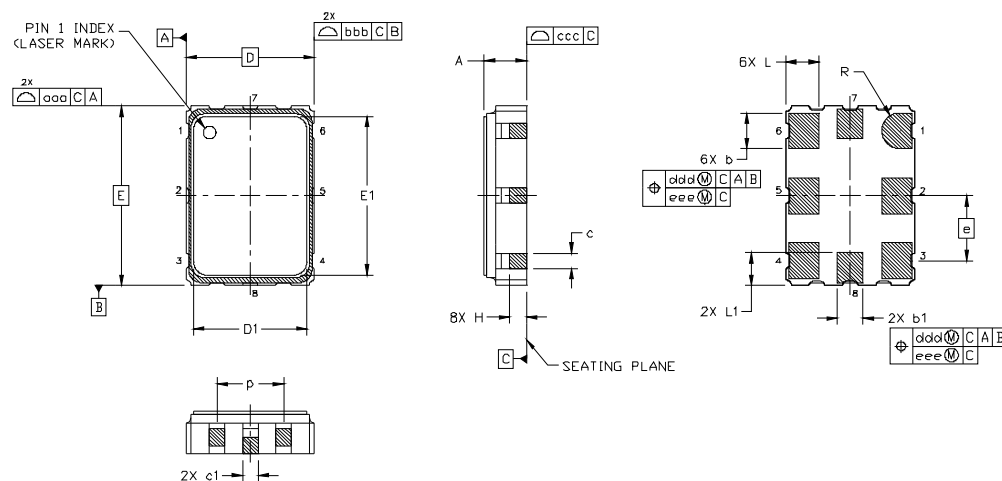

Figure 7. Si598/Si599 Outline Diagram
Figure 7 illustrates the package details for the Si598/Si599. Table 19 lists the values for the dimensions shown in the illustration.
- Corrected pin 7 and pin 8 designation in package diagram in Figure 7 on page 24.